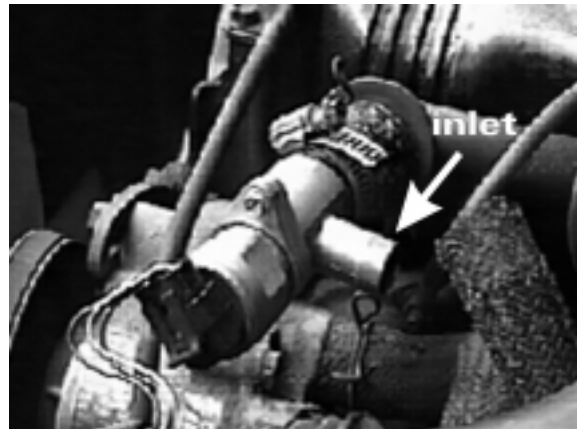

Figure 7. Air Control Valve Inlet Disconnected
- Disconnect the inlet hose at the air control valve with the engine running. See figure 7. If there is no airflow out of the air pump, check the parts upstream for proper function. Check the other air hoses, air pump, diverter valve and vacuum lines to the diverter valve. Replace or repair defective parts.